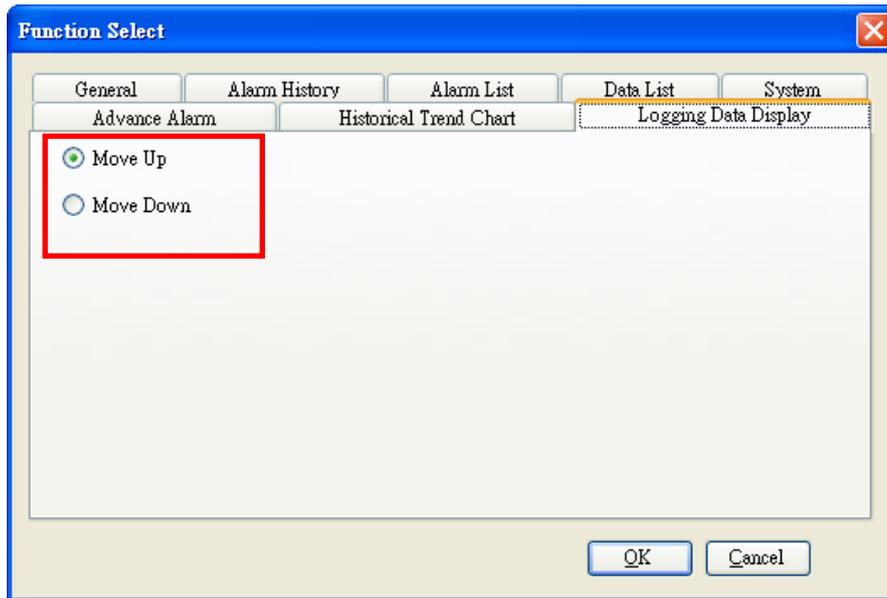

Figure 3-6-5d-2: Key Function setup
- In the Historical Data table, you also can use “Move Up” and “Move Down” to scroll the historical data table as shown in figure 3-6-5d-2.
Click the object and then double left click the mouse to open the property window of the object and make the setting. The General property setting allows the user to change the transparency and rotation angle. See Figure 3-6-5d-3 below.